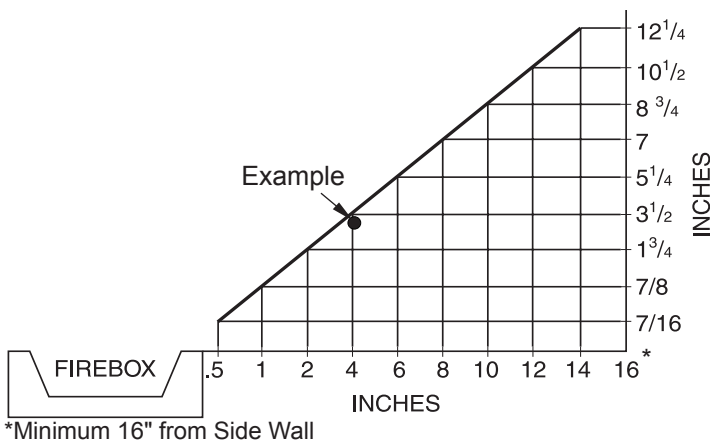

Figure 2 - Minimum Clearance for Combustible to Wall
- where curtains, furniture, clothing or other flammable objects are less than 36" from front, 42" from top of appliance; for side clearances see Figure 2, page 5
- A. Clearances from the side of the fireplace cabinet to any combustible material and wall should follow diagram in Figure 2.
Example: The face of a mantel, bookshelf, etc. is made of combustible material and protrudes 3 1/2" from the wall. This combustible material must be 4" from the side of the fireplace cabinet (see Figure 2).